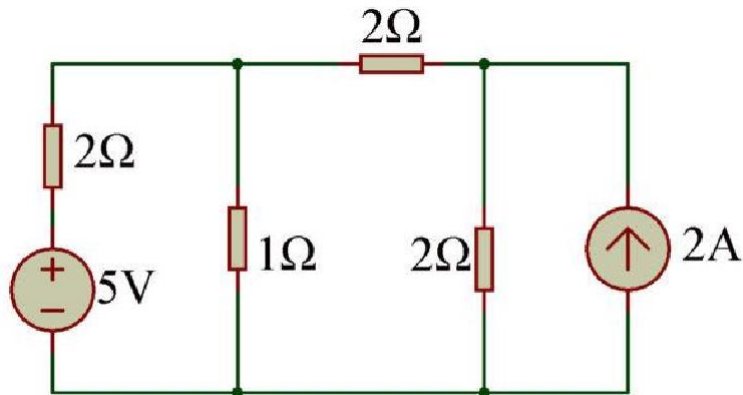
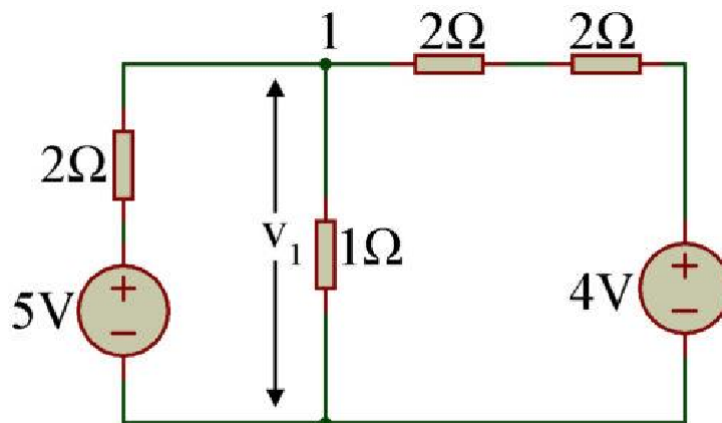

Figure: 7
Figure: 8
**Example 4:** In the circuit of figure 7, find the current in  $1\Omega$  resistor.
Let us first convert the current source of figure 7 to voltage source and draw the equivalent network (figure 8). Let the +ve voltage at node (1) be  $v_1$  V.